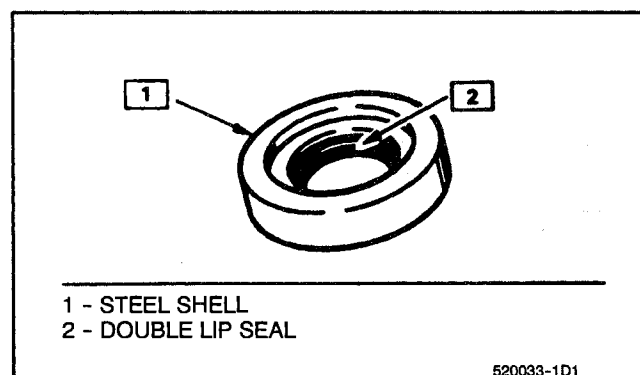
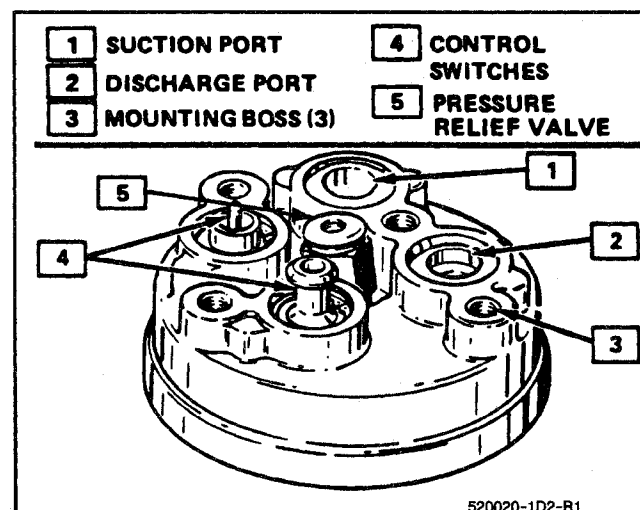

Fig. 18 Compressor Shaft Seal
Fig. 19 Compressor — Rear Head
When replacing the shaft seal assembly (Fig. 18), pressure relief valve or control switches (Fig. 19), it will be necessary to recover the refrigerant. Other than clutch repair procedures, the same holds true for any disassembly of the compressor.
NOTICE: Seals should not be re-used. Always use a new specification service seal on rebuild (Fig. 18). Be sure that the seal to be installed is not scratched or damaged in anyway. Make sure that the seal seat and seal are free of lint and dirt that could damage the seal surface or prevent sealing.
2. Remove old pressure relief valve (Fig. 19).